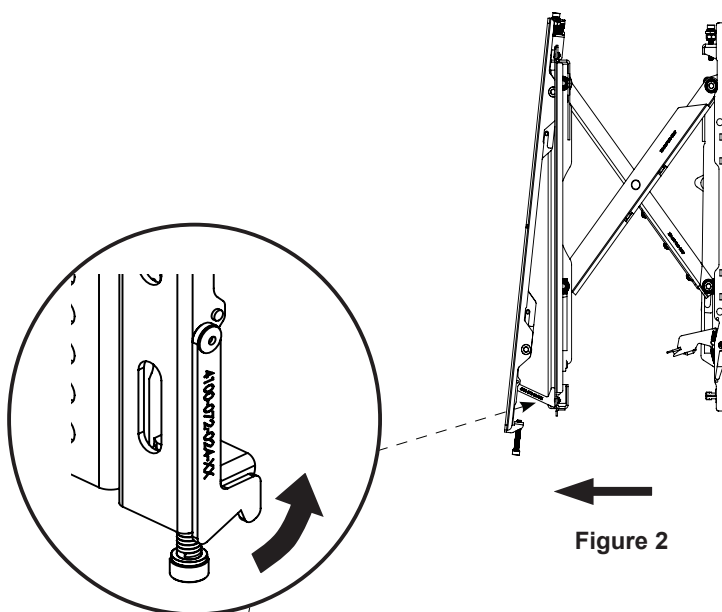

Figure 2
- 1) Slowly pull the front of the LMVSP to extend the scissor arms (Figure 2).
- 3) Tilt up the bottom of the flat-panel, then set their kickstands against the bottom tubing of the mount (Figures 2 & 3).